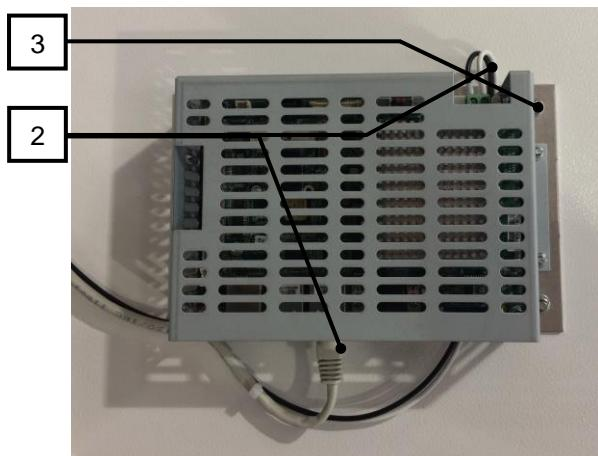

Fig 2.1
Unplug all connections to the PC (2) then unscrew the four fixing nuts that hold the PC to the door (3) (see Figure 2.1).